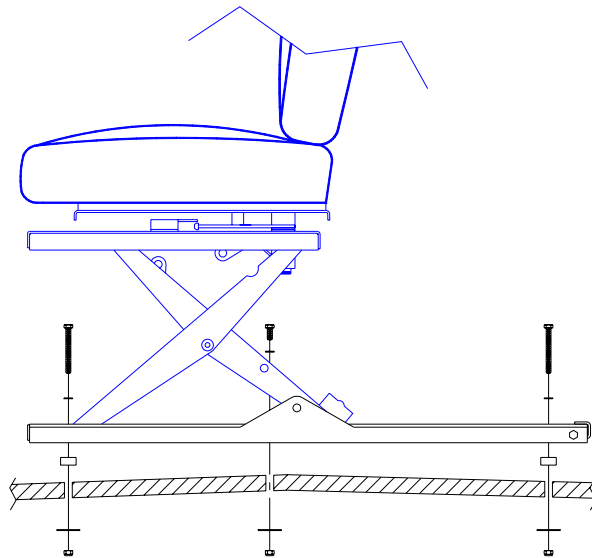

FIGURE 2-8: BASE FRAME MOUNTING
- q. Refer to **Figure 2-8**. Insert six mounting screws through base frame mounting holes.